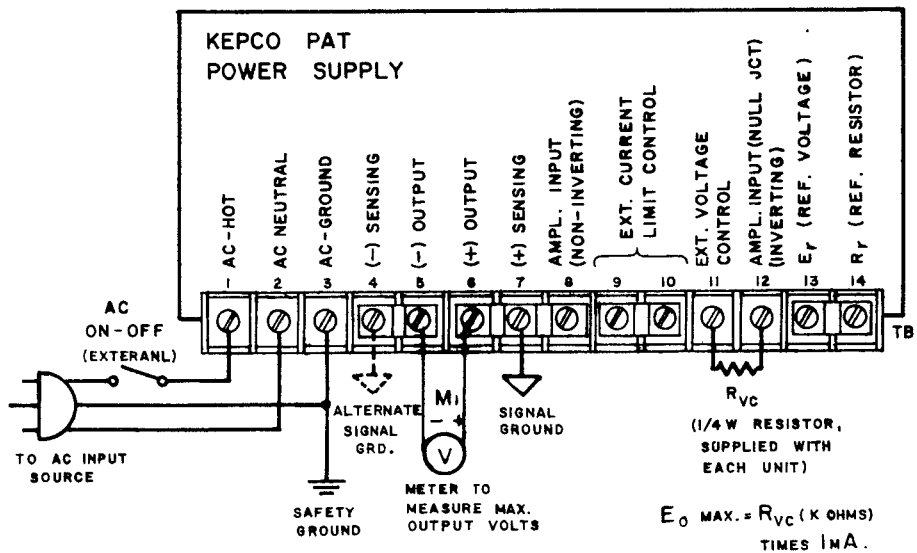

FIG. 2-4 OPERATIONAL CHECKOUT.
Connect an external voltmeter (M1) to terminals (5)-(6) as shown in FIG. 2-4. Connect a line cord to terminals (1)-(2) with the ground wire to terminal (3).